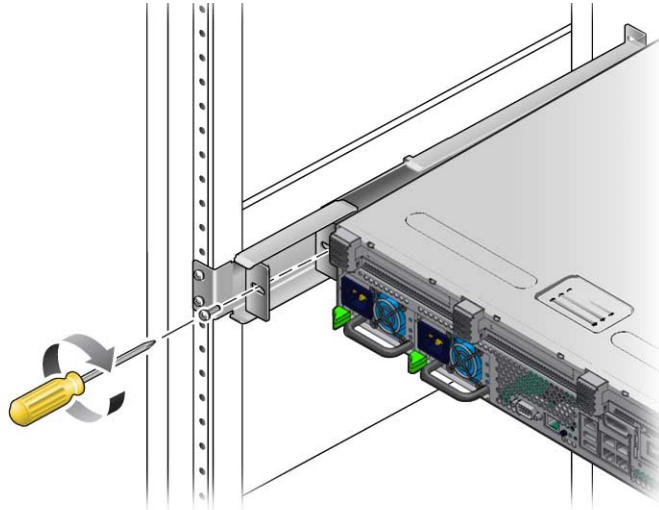

FIGURE 2-21 Securing the Rear of the Server to the Rear Flanges
16. Push the server backward until it rests flush against the rear flanges. Use one M5 x 7 SEM screw for each rear flange to secure the rear of the server to the rear flanges (FIGURE 2-21).